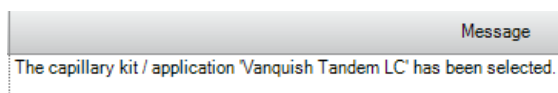

Figure 11: Audit trail message for a successful Fluidic Configuration procedure
- a. For Vanquish Duo Tandem LC setups, a Regular Instrument Method or a Tandem Instrument Method can be selected (Figure 11). Follow the prompts of the wizard. The first page of the wizard is the same for a Regular Instrument Method and will not be covered here in more detail.